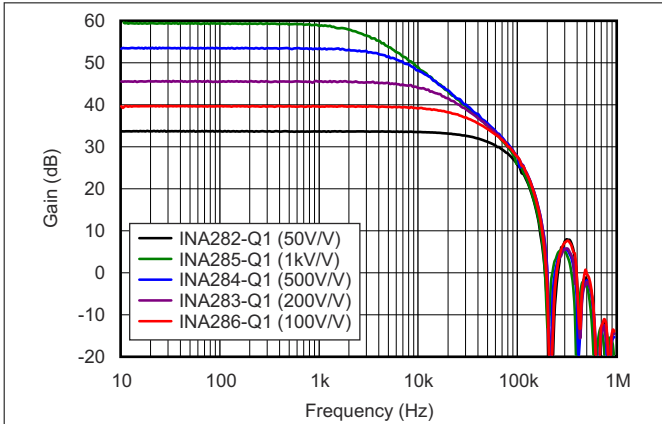

Figure 6-1. Gain vs Frequency
(7) See typical characteristic graph Figure 6-1 and Section 7.3.2 in the Applications Information.